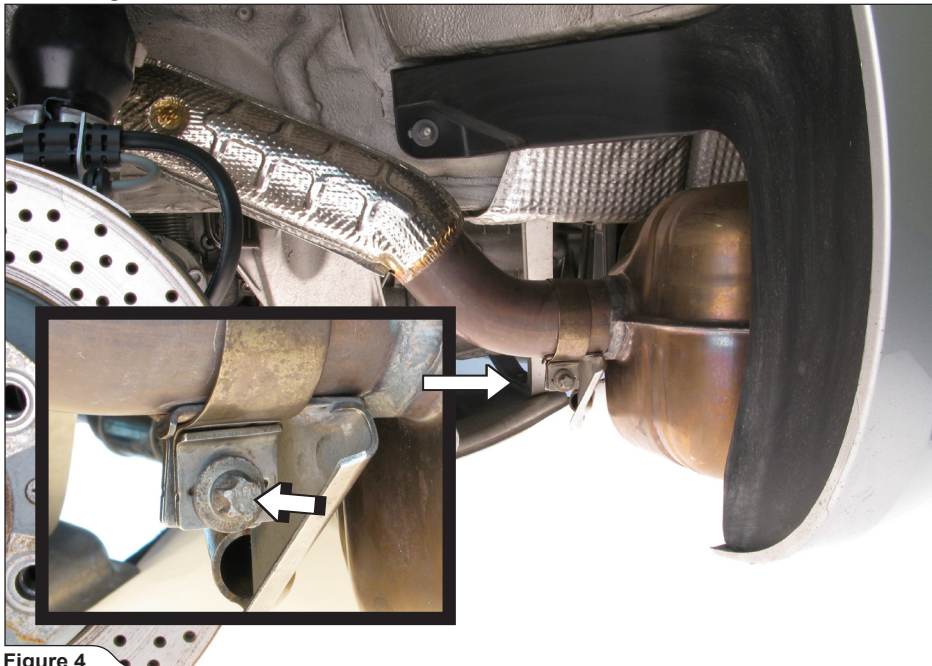

Figure 4
4. Unscrew the marked bracket clamps and flange nuts on both sides of the vehicle (**Figure 4, 5**). Carefully separate the mufflers and remove them off the vehicle.